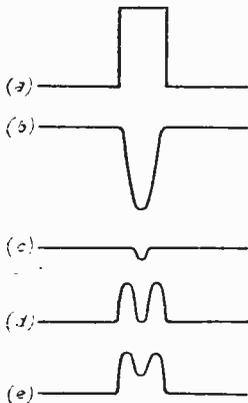

Fig. 11.—Variation of waveforms referred to in the text.
(12) Replace the ECC81, and remove V4.
(13) Connect oscilloscope Y amplifier input to V5-V6 anodes, and adjust timebase speed to about 50 per sec. Check that practically nothing is seen of pips at all. If large pips are seen, even at small Y amplifier setting, check the X65's for goodness. Small pips may indicate not quite equal amplification by the separate X65's, or small differences in the waveforms from the phase-splitter anode and cathode. These do not matter much, especially if they are in pairs, but whole pips of considerable amplitude indicate some fault. Fig. 11 shows what is acceptable generally; if (a) and (b) (derived from V2 cathode and anode respectively) are of slightly different amplitude, an output of (c), (d) or (e) may be obtained.
(14) Replace V4. Set oscilloscope timebase to about 10 sweeps per sec. (just flickering). Connect Y amplifier, set at low gain, to cathode end of R.F.C. (stage f, V9) through 50 pF condenser sync amplifier at minimum—the waveform now will only by a miracle give proper sync and it is not worth the trouble; careful adjustment of speed